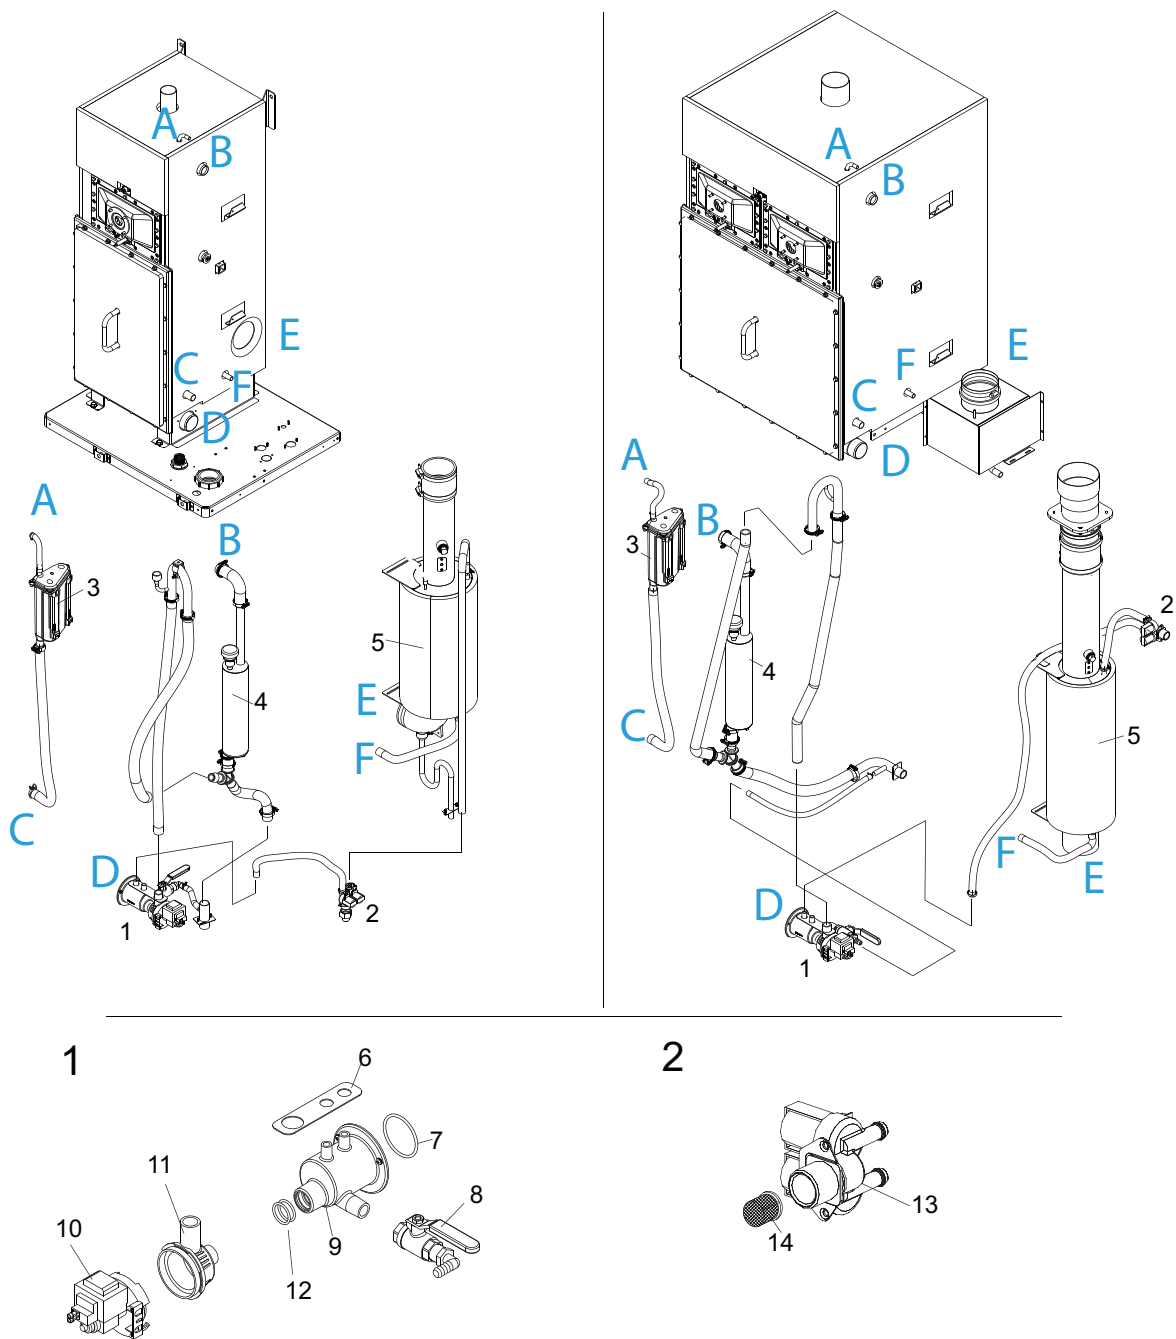

Figure 13: Cleaning Hoses, Dual Fill Valves and Drain Pump (A-G are connection points to humidifier)
5. Reconnect the water hoses. You may also refer to Figure 13 on page 66.
6. Reassemble the float chamber, ensuring the orientation of the floats have been maintained. Reinstall it to the bracket on the humidifier and reconnect hoses. Refer to Figure 13 on page 66.